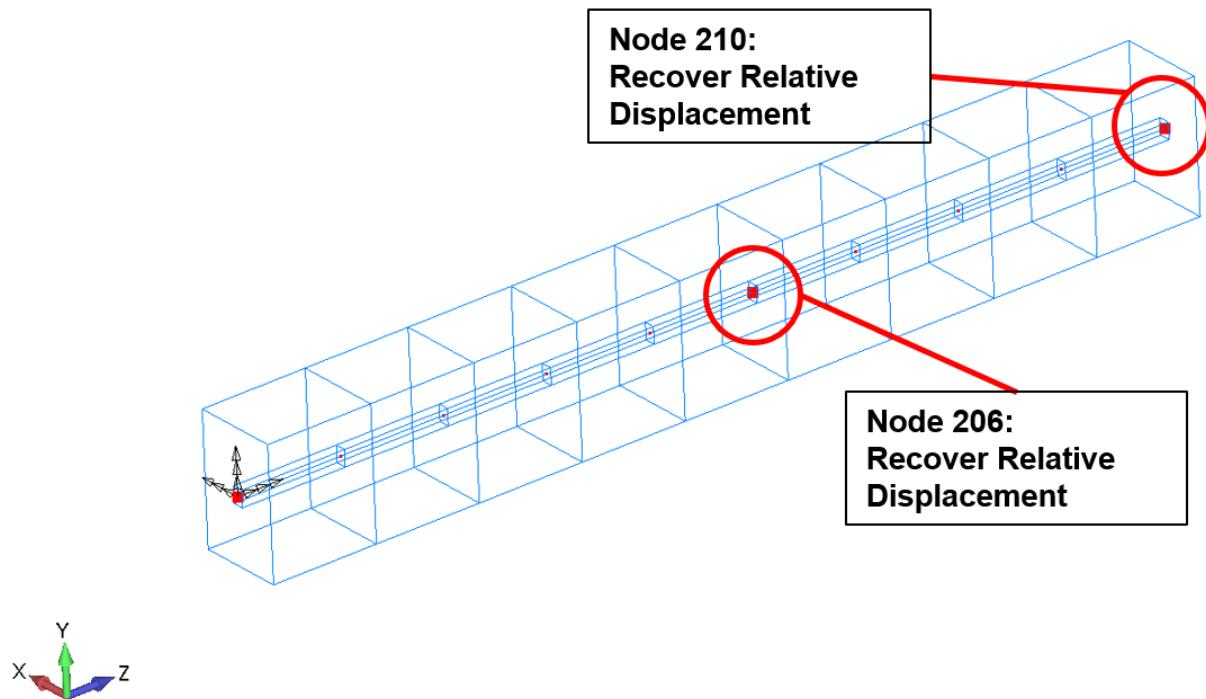

Figure 4-123. Coincident beam model showing nodes of special interest.
1. Import the concentric beam model “coincident_beams.dat” into Femap. Save the model file as “coincident_beams.modfem.” Figure 4-123 shows the model with notes about nodes that are of special interest for this analysis.